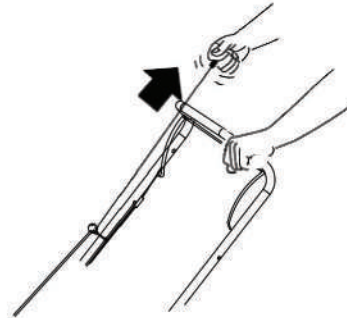

Figure 9
3. Hold blade control bar then pull the pull start to start the mower. (Figure 9)